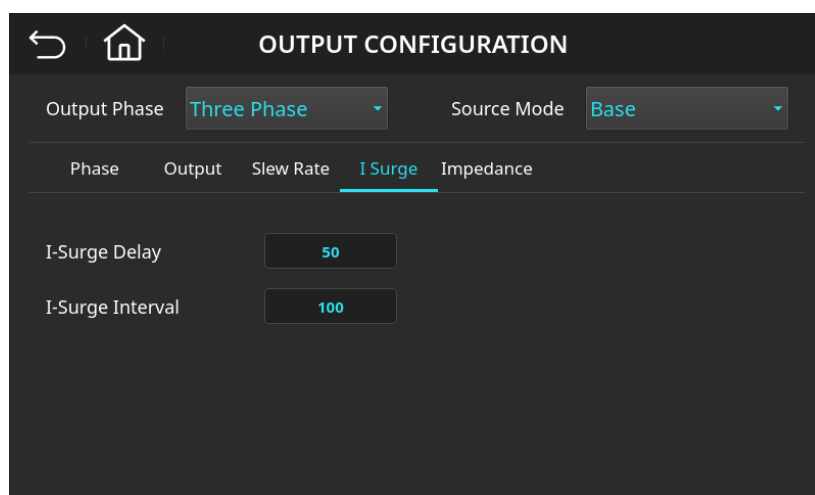

Figure 4-45: Inrush Current Measurement Setting Page (I-Surge Delay = 50, I-Surge Interval = 100)
5. Enter **1**, **0**, **0**, then press the **Enter** key. The value will change to “100”, as shown in Figure 4-45.